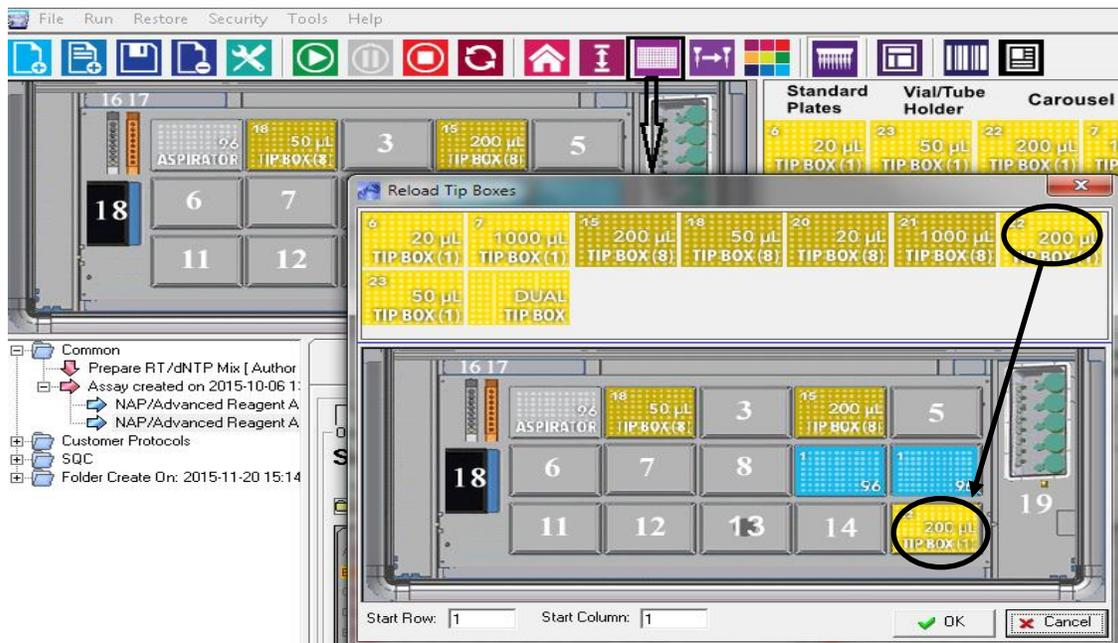

Figure 9-19 Aurora Station –Reload Tip Box
To let the software know that you have a full tip-box you must “reload the tip boxes” by dragging and dropping the correct size of tip box in the software to the location where it exists on the deck (*Figure 9-19 Aurora Station –Reload Tip Box*). In the VERSA1100 main interface menu, drag 200 Tip (1) representing single channel 200 μ L Tip Box to position 15. Or under Reload Tip Boxes mode, drag 200Tip (1) to position 15.